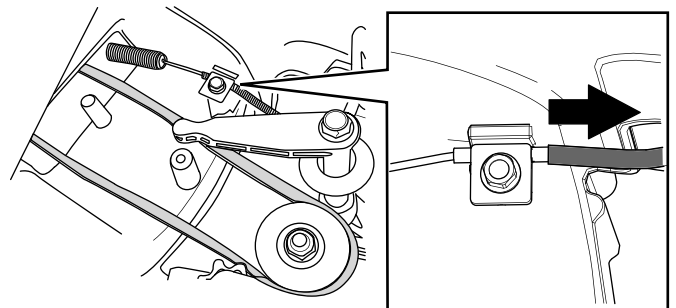

Figure 35
6. Pull the cable jacket to remove slack (Figure 35).